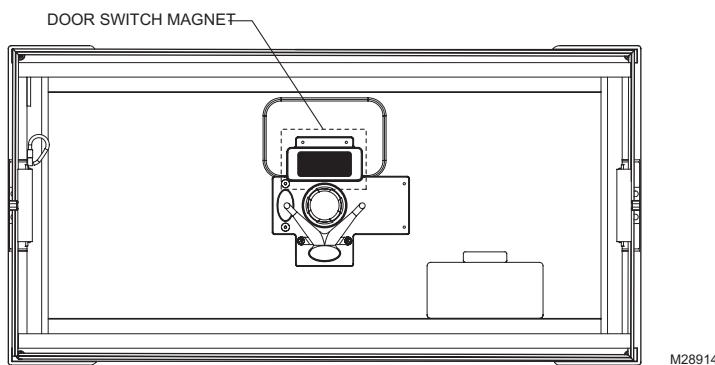

Fig. 16. Door Switch Magnet
- Attach the Honeywell Enhanced Air Cleaner door to the cabinet. A magnet in the door (see Fig. 16) is used to activate a safety switch in the power supply when the door is installed. The power supply will not energize the air cleaner unless the safety switch is activated.
**NOTE:** A magnet in the door (see Fig. 16 on page 19) is used to activate a safety switch in the power supply when the door is installed. The power supply will not energize the air cleaner unless the safety switch is activated.